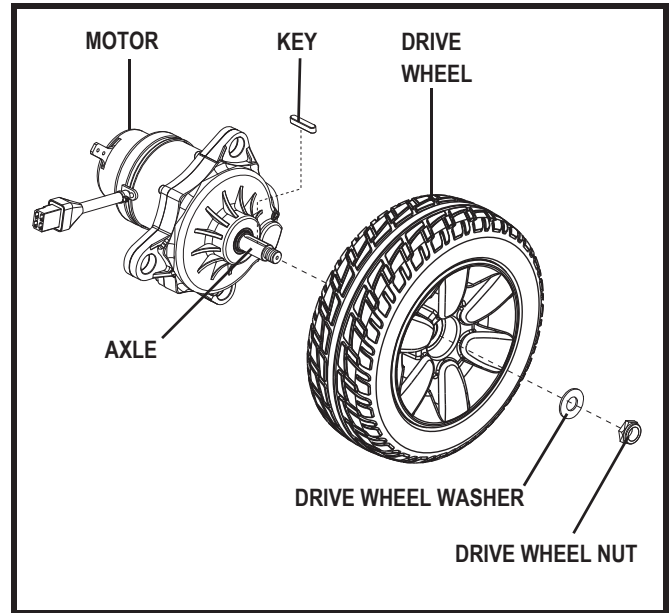

Figure 22. Jazzy Freedom Drive Wheel Removal
4. Remove the drive wheel nut and washer from the axle. See **figure 22**.
8. Reinstall the drive wheel nut and washer onto the axle and tighten. See **figure 22**.